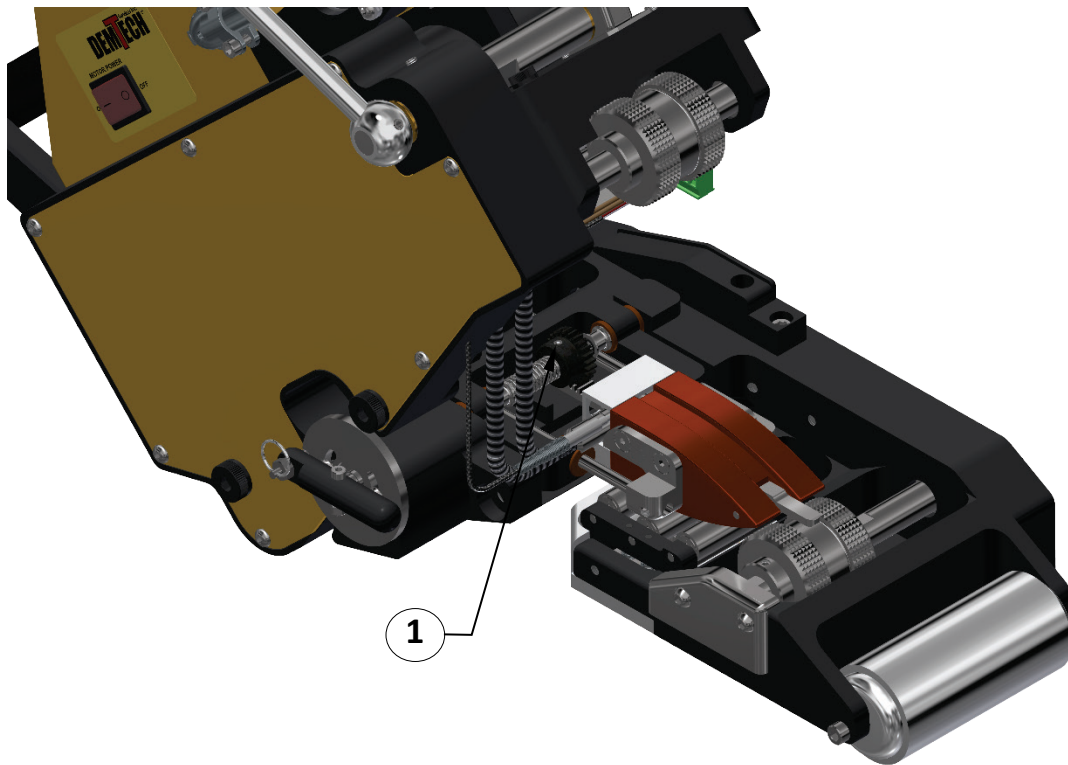

Figure 5
Before beginning Adjustment #2 make sure the Wedge Engagement Handle has no free play. If it does tighten the Pinion Gear Set Screw (1) (see Figure 5). This adjustment controls how close the Wedge is to the Nip Rollers when it is in the Engaged/Welding position.